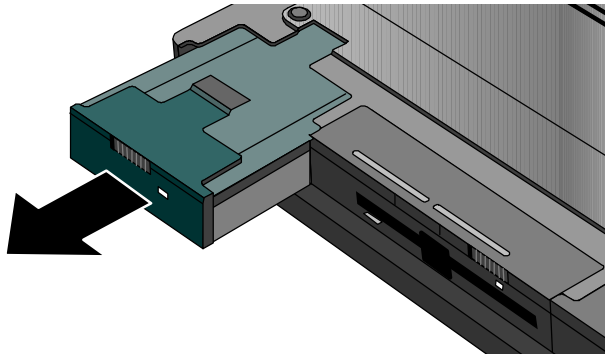

Figure 19 - Removing the Battery
1. Slide the battery release switch to the right and slide the battery out of its compartment. See Figure 19 - note, this perspective is with the OmniBook upside down, which is not necessary.